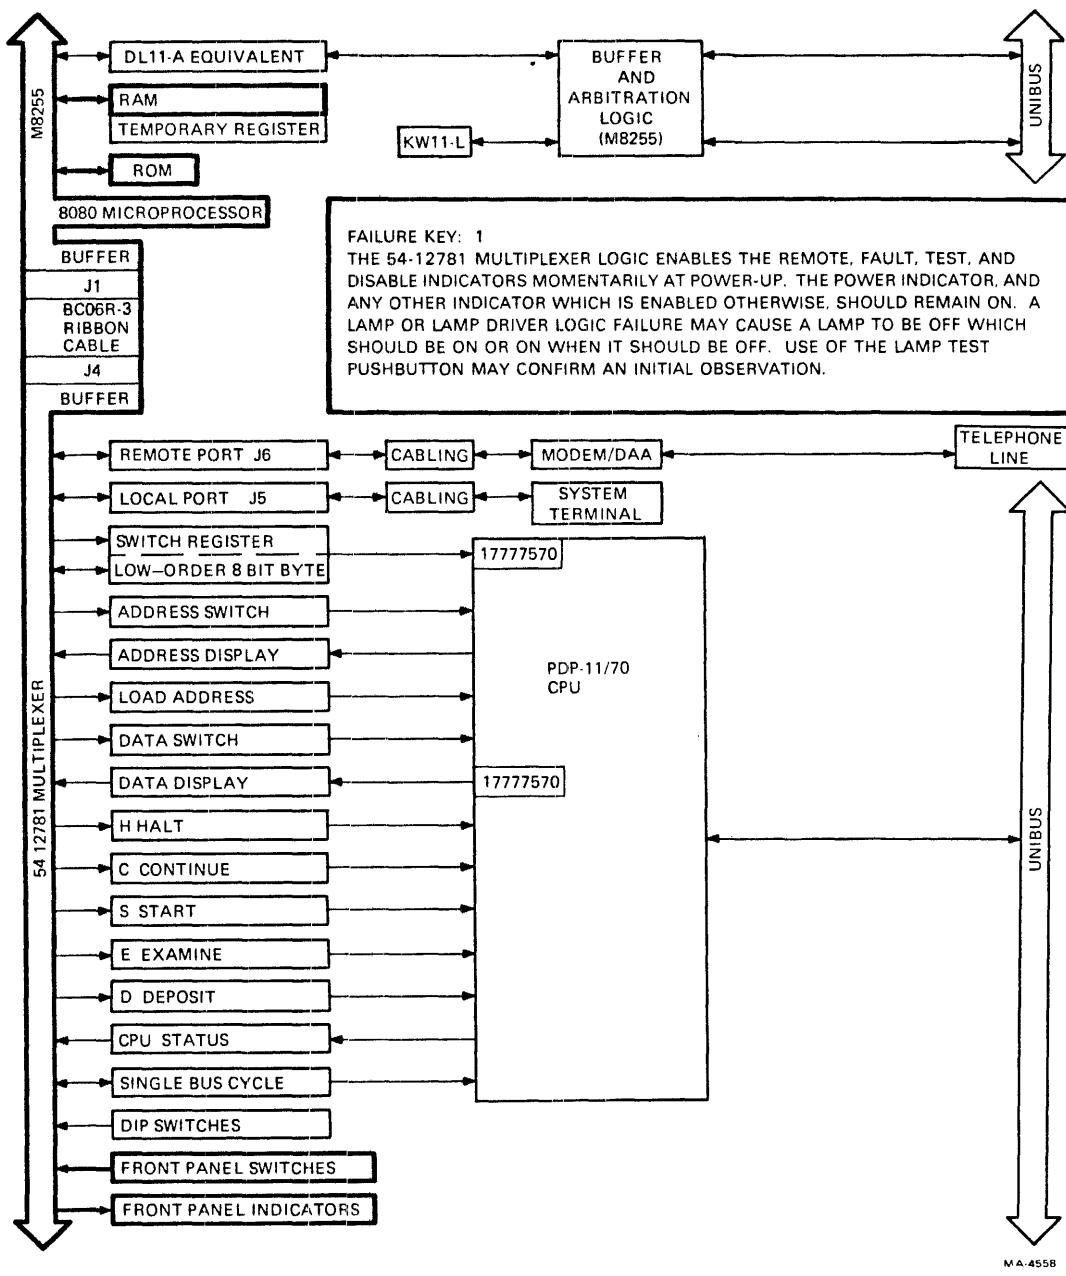

Figure 7-1 Failure Key 1
The series of failure keys that follow (Figures 7-1 through 7-14) is intended for use in conjunction with the electronic console checkout procedure (Paragraph 6.4). A limited area of logic is exercised at Test 1, and failure key 1 illustrates the hardware being tested. As the checkout procedure and the failure keys progress, additional areas of logic are tested and illustrated. Virtually all of the locally accessible electronic console logic is tested by these exercises and illustrated in the failure keys.